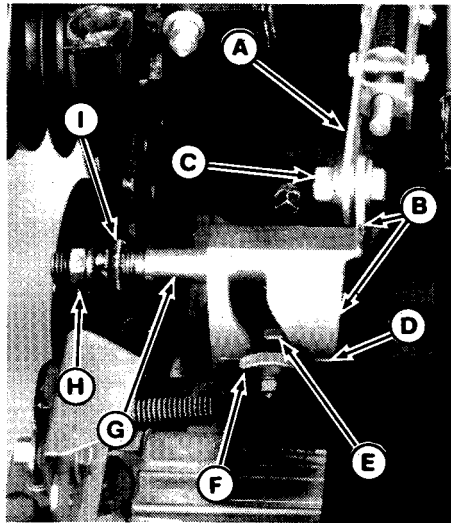

Figure 23. Hydrostatic Neutral Adjustment
- b. Raise the seat deck and check if the pump control arm roller (E, figure 23) is exactly centered with the cen-